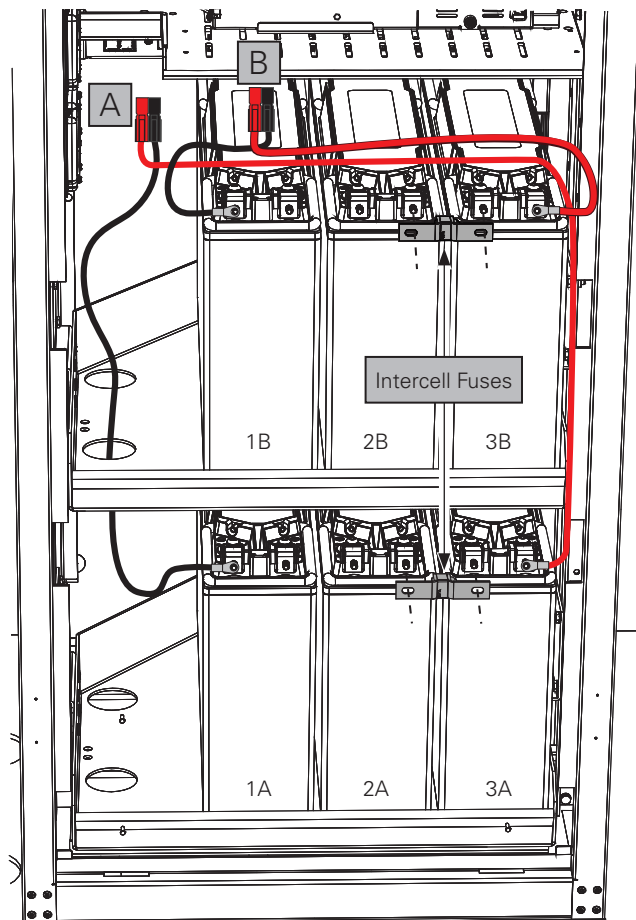

Fig. 2-6, Installing Battery Cables and Intercell Fuses
- A. Start with A string battery cables on the bottom tray of the PN-4 FT. Route the black wire through the hole in left side of the top tray as seen in Fig. 2-6. Route the red wire along the right side of the enclosure.